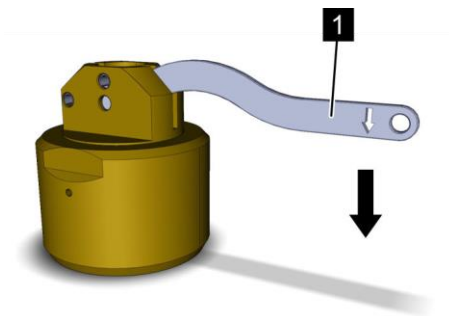

Fig. 168: Hand lever down
4. ➔ Press the hand lever (Fig. 168/1) of the manual release device downward to the stop (Fig. 168/ arrow).